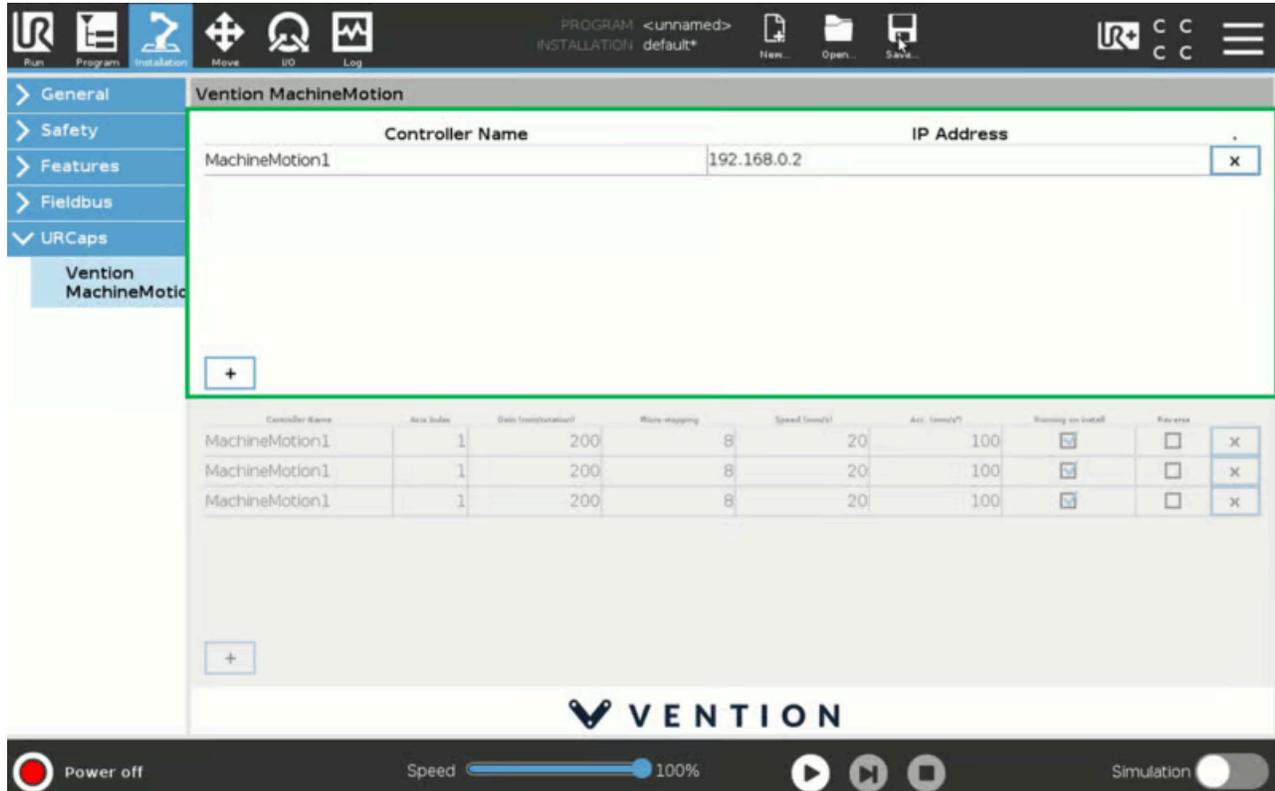

Figure 18: Upper window of the Vention URCap configuration screen
The upper window of the Vention URCap is used to define a MachineMotion controller instance (see Figure 18). Note that multi-controller systems can be created by adding more than one controller.
- **IP Address:** IP address of the MachineMotion controller. In Figure 18, IP address **192.168.0.2** is used for the MachineMotion controller